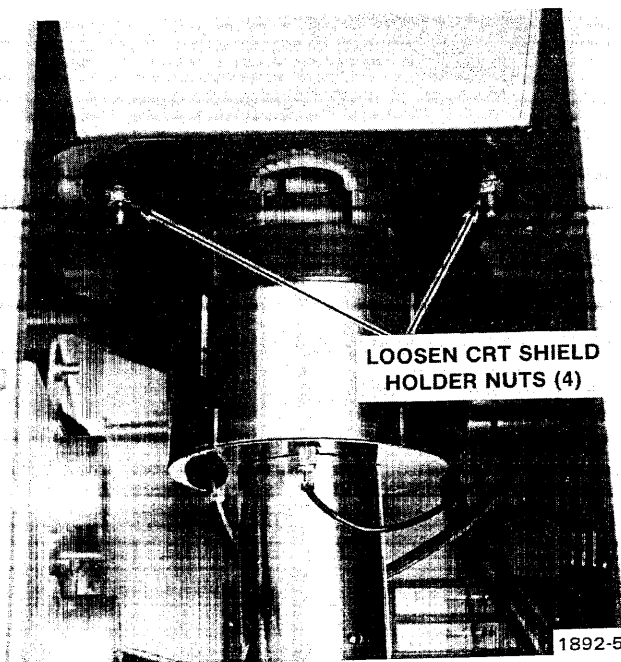

Fig. 2-3. Shield Holder.
2. Loosen (but do not remove) the nuts that secure the crt shield holder to the crt shield (Fig. 2-3).